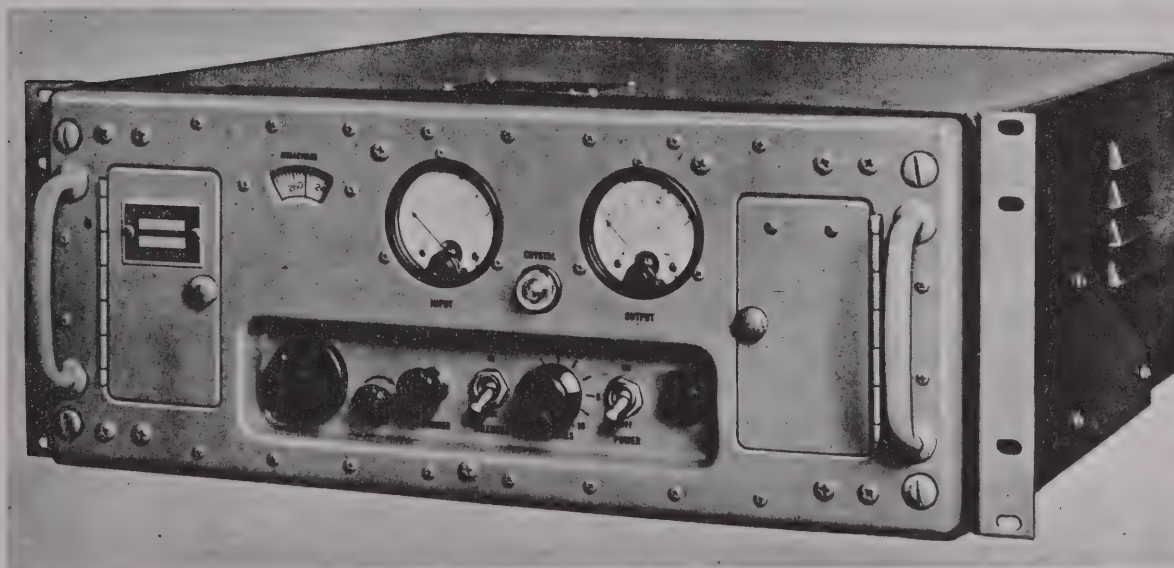

Figure 3-4. Radio Receiver R-482/URR-35, Relay-Rack Mounting Brackets Attached and Shockmounts Removed
(2) RELAY-RACK MOUNTING.—If the receiver is to be mounted in a standard 19-inch relay rack, it will be necessary to remove the four shockmounts from the bottom of the cabinet and to attach the two angle brackets provided to the sides of the cabinet; see figure 3-4. The shockmounts can be taken off by merely removing the bolts in the corners of their flange plates. The angle brackets are symmetrical in shape and are attached, one to each side of the cabinet, by means of No. 8-32 x 1/2-inch long Phillip's-head machine screws. Five holes in each bracket line up with five tapped inserts in each side of the cabinet; see figure 3-3. (The required screws will be found threaded into the tapped holes in the cabinet.) Removal of the shockmounts will also cause detachment of the phosphor-bronze grounding strap, which is ordinarily connected between one of the shockmount mounting screws and the 5/16-inch diameter cabinet mounting bolt which drops through the hollow core of the shockmount. This strap will not be needed for relay-rack mounting, but should be put in safe keeping for possible future use.